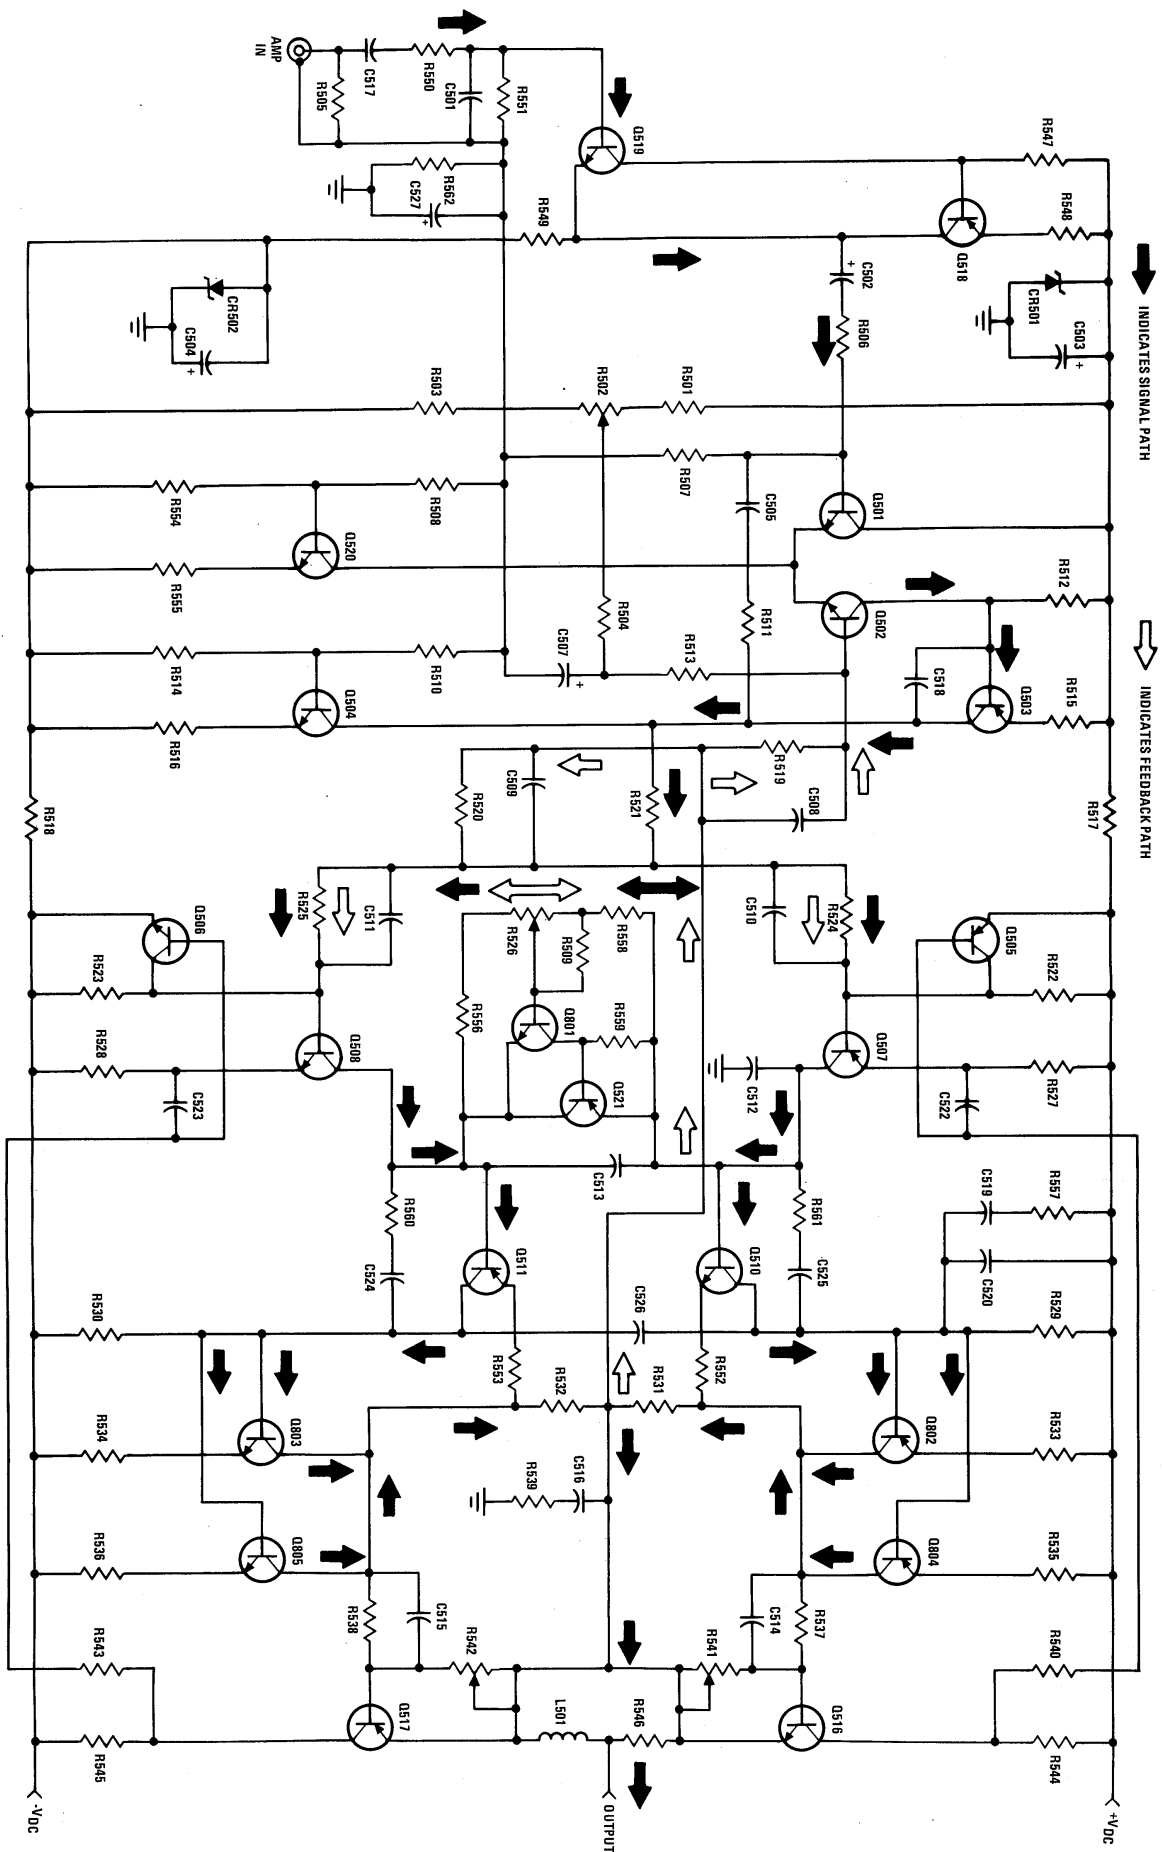

FIGURE 1. Amplifier Simplified Schematic
**Page 2 and 3** — Replace Figure 1 (Amplifier Simplified Schematic) with Figure 1 contained herein.
The input of the power amplifier, Figure 1, is an RF filter comprised of R550 and C501, followed by transistors Q518 and Q519 which are coupled together as a conjugate paired amplifier with 100% feedback. The output of the conjugate pair is coupled through C502 and R506 to the differential amplifier, Q501-Q502, which drives a high gain inverter, Q503. Q504 is the current source for the inverter, and Q520 serves as a current source for the differential amplifier to enhance its common mode signal rejection. The inverter is coupled to complementary pre-drivers, Q507-Q508. The output of the pre-drivers is applied to the respective drivers, Q510-Q511, which feed their respective power transistors, Q802-Q804 and Q803-Q805.